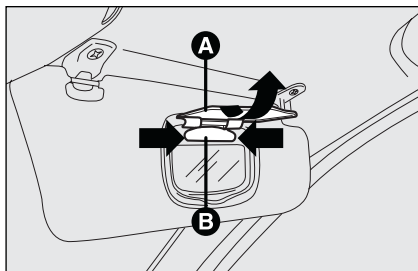

fig. 49
- open the mirror cover **A**-fig. 49;